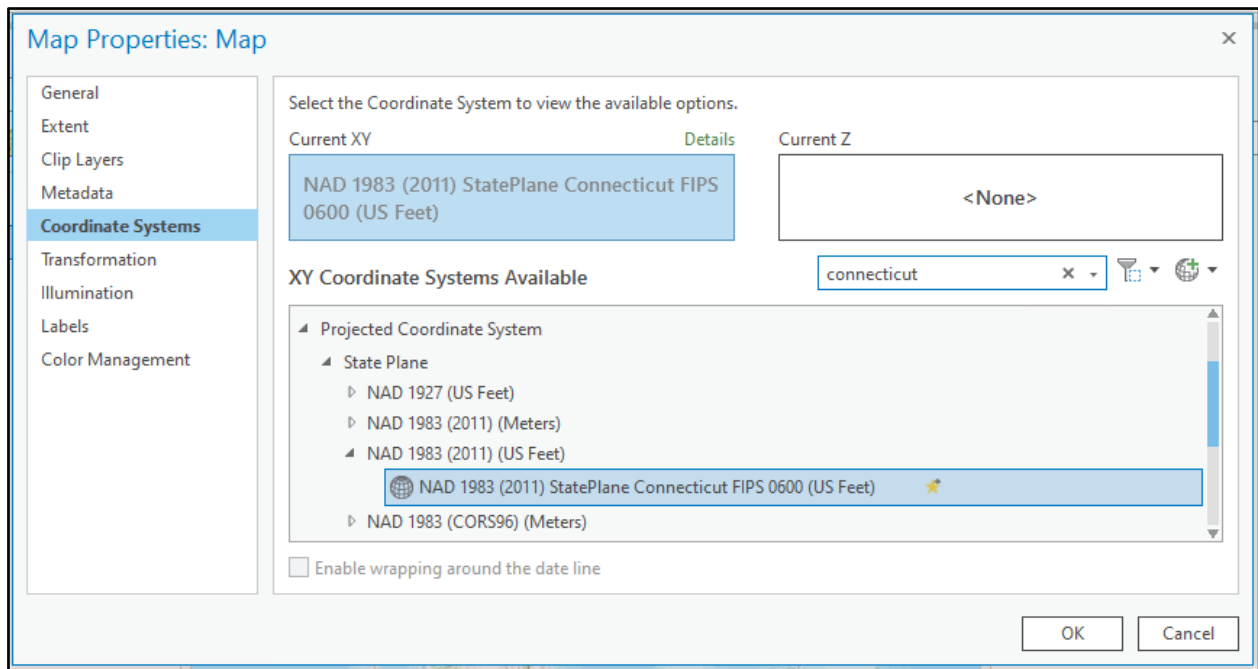

Figure 7. Coordinate system selection in ArcGIS Pro.
- In the Contents Pane right click the map and choose Properties – Coordinate Systems and select NAD 1983 (2011) StatePlane Connecticut FIPS 0600 (US Feet) (Figure 7, below). Click OK and save your map.